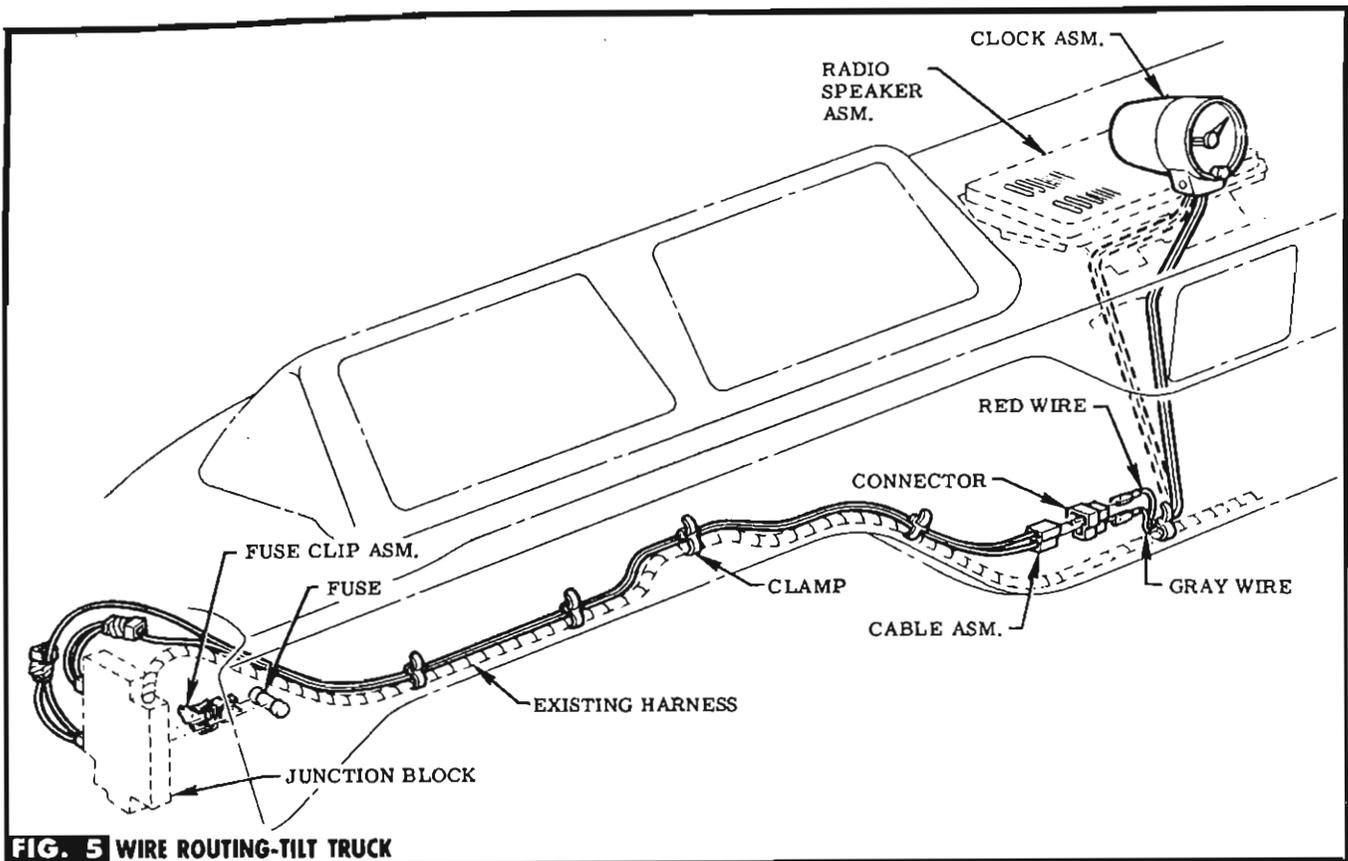

FIG. 5 WIRE ROUTING-TILT TRUCK
STEP 5 INSERT CABLE INTO 2-WAY CONNECTOR & PLUG IN CLOCK WIRES, MATCHING COLORS. SEE FIG. 5, 6, 7 OR 8.
JUNCTION BLOCK & ATTACH TO EXISTING HARNESS WITH PROVIDED CLAMPS. SEE FIG. 5, 6, 7, OR 8. **NOTE** (ON TRUCKS WITH RADIO) Route clock wires over edge of speaker. See Fig. 5 or 8.
STEP 7 (ALL EXCEPT CHEVY) INSTALL FUSE CLIP & FUSE INTO RECEPTACLE IN JUNCTION BLOCK MARKED "GL. BOX LP." & PLUG IN RED WIRE CONNECTOR. SEE FIG. 5, 6 OR 8. **NOTE** If receptacle is occupied, remove existing wire & plug into jumper wire. Discard fuse & clip.
STEP 8 (ALL EXCEPT CHEVY) PLUG GRAY WIRE CONNECTOR INTO BACK OF JUNCTION BLOCK AT RECEPTACLE MARKED "PANEL LPS." SEE FIG. 5, 6, OR 8. **NOTE** If receptacle is occupied, remove existing wire & plug into jumper wire.